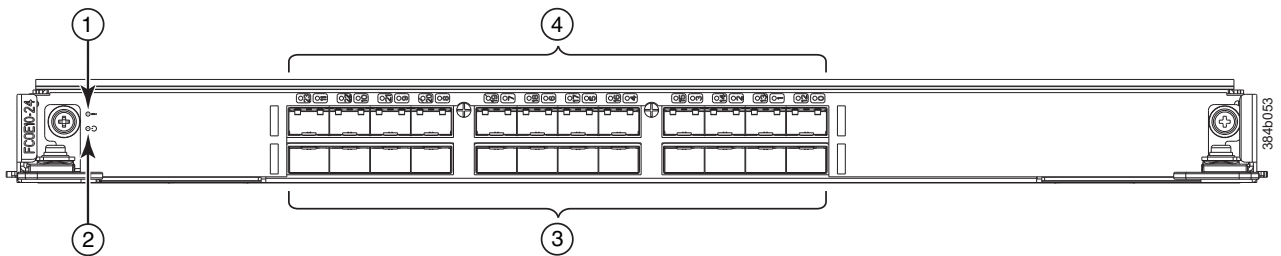

Figure 25. FCOE10-24 blade
- Figure 25 on page 49 illustrates the FCOE10-24 Fibre Channel over Ethernet blade